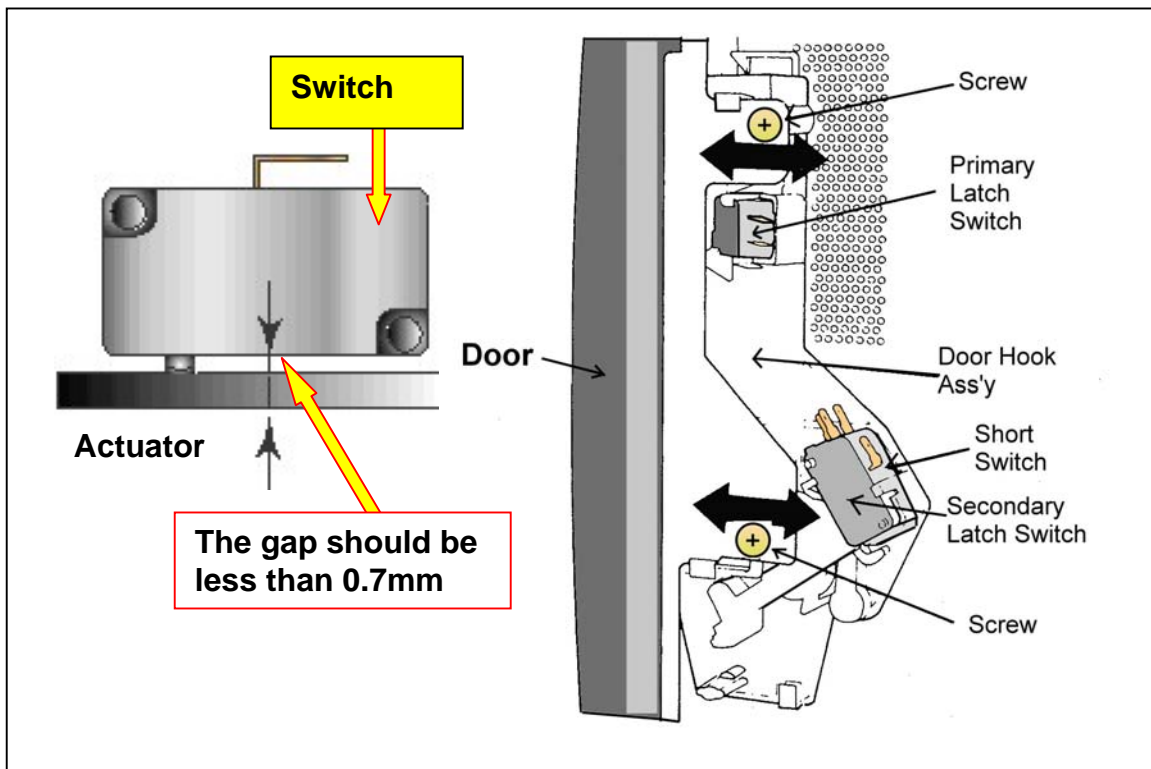

Figure 7
1. Mount the primary latch switch, the secondary latch switch, and the short switch to the door hook assembly as shown in the figure 7.
2. When mounting the door hook assembly to the oven assembly, adjust the door hook assembly by moving it in the direction of the arrows in figure 7, so that the oven door will not have any play in it.